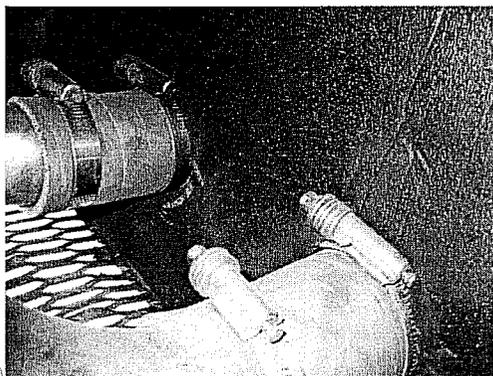
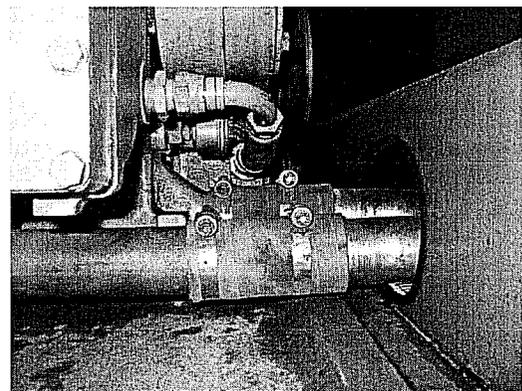

Figure 1
Figure 2
- 2.6.4.12 Each hose to pipe connection from & to water pump shall have "constant torque" hex drive hose clamps fitted, (see figure 1). Each clamp shall be orientated so access for tightening can occur from access hatch (see figure 2).